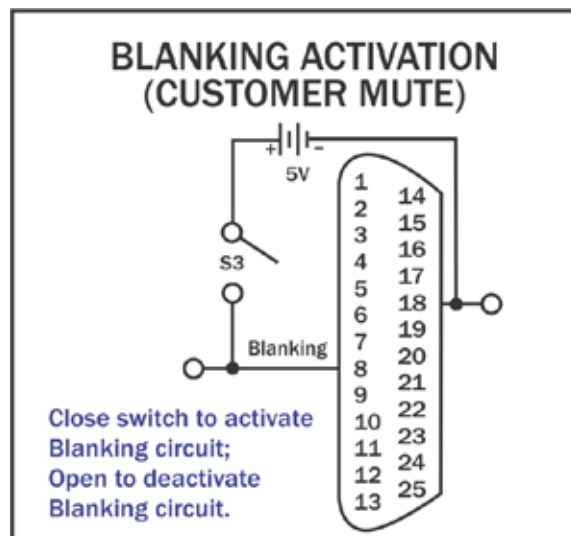

Figure 7.13 – Blanking Activation
**Method:** Build a switchable circuit using an external, isolated 5V power supply that can apply a +5V signal to PIN 8. Connect across PIN 8 (Blanking) and PIN 18 (Blanking Return). See **Figure 7.13**.